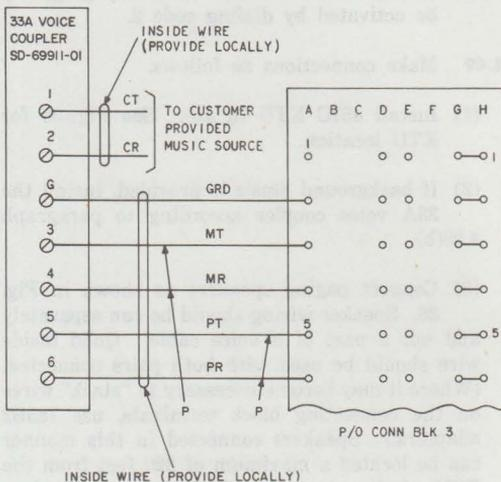

Fig. 31—Connections for 33A Voice Coupler
- (1) Remove cover from voice coupler
- (2) Mount voice coupler externally to KSU (wherever customer desires)
- (3) Connect voice coupler to KSU as shown in Fig. 31
- (4) Have customer connect voice coupler to his music source as shown in Fig. 31.
- (5) Replace cover on voice coupler.